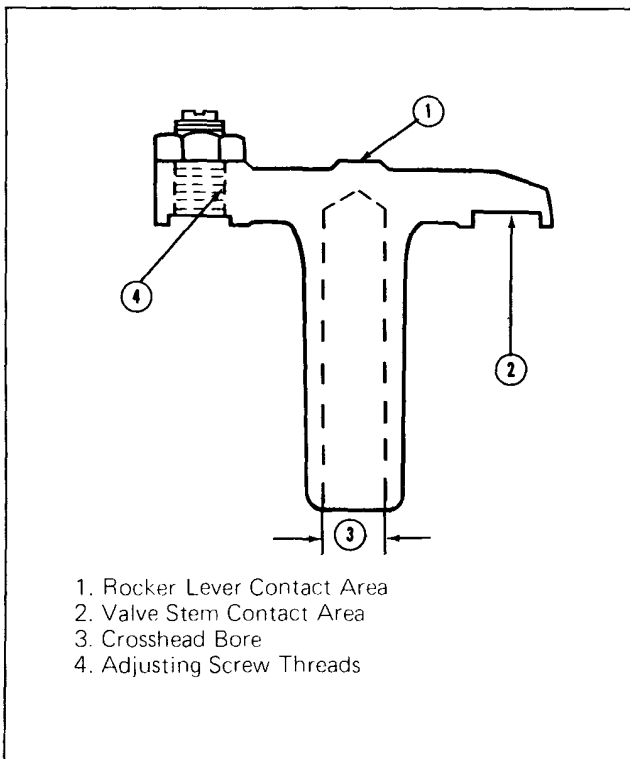

Fig. 2-10, (N10299). Crosshead wearpoints
4. Check bore inside diameter (3, Fig. 2-10) using a small bore gauge set at 0.4402 inch [11.181 mm]. Use as a "No Go" gauge to check for wear beyond worn replacement limit.
6. Visually check for excessive wear on rocker lever (1) and valve stem contact surface (2). Check adjusting screw and crosshead threads (4) for wear or distortion. Mark for replacement if excessive wear is found.